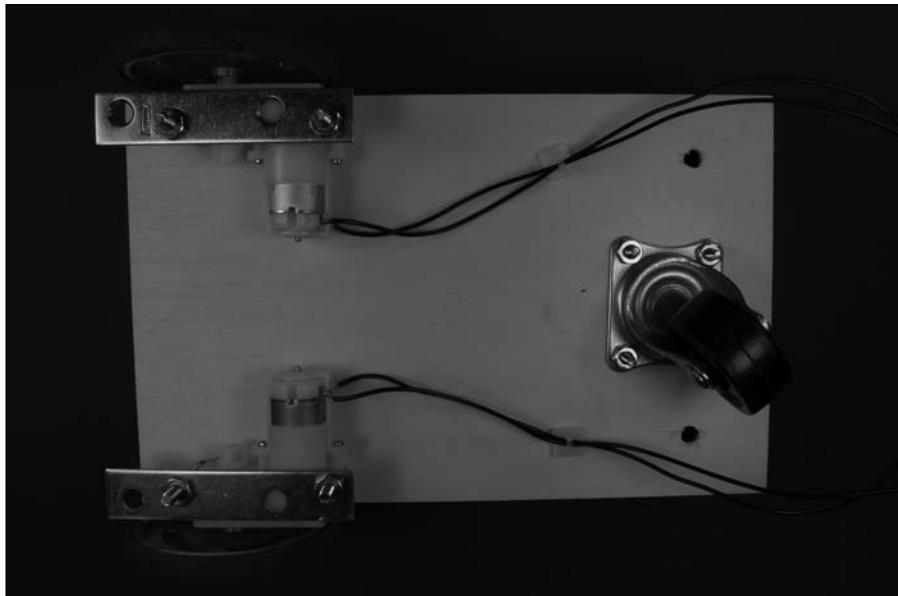

Figure 13-30:
5. **Attach the castor to the box with four 6-32 screws and nuts, as shown in Figure 13-30.**
6. **Attach the motors to the box with two 8-32 screws and nuts and one mending brace for each motor, as shown in Figures 13-30 and 13-31.**